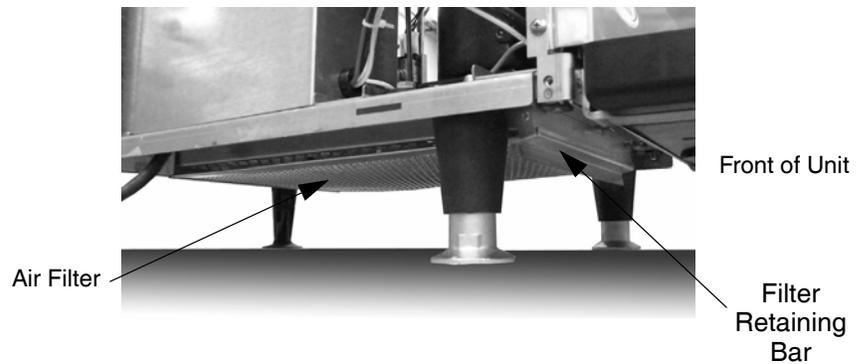

Figure 33. Air Filter Installation
5.	Set the filter into the filter holding bracket toward the rear of the unit and flip the filter retaining bar down to hold the air filter in place, as shown in Figure 33.